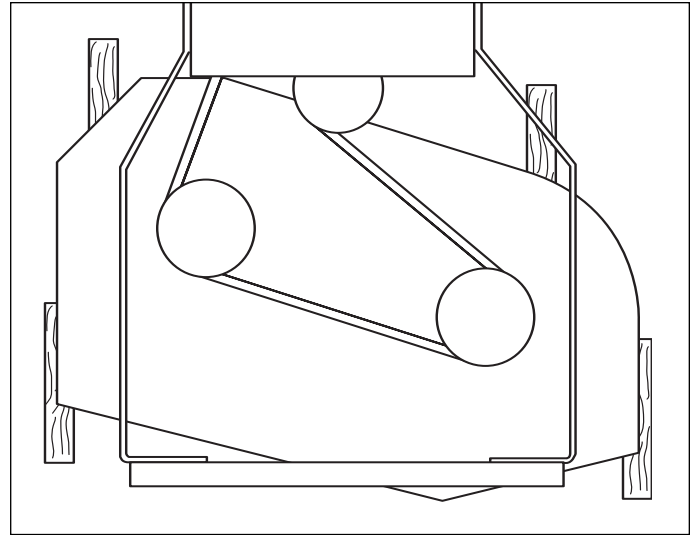

Figure 16. 2 x 4 Placement
- 3A. If the mower deck is in the HIGH RANGE, place 2 x 4 blocks under the outside edges of the mower deck with the 3-1/2" sides being vertical. Place a 1/8" (3mm) thick spacer on top of the rear 2 x 4 blocks. (See Figure 16)
- 3B. If the mower deck is in the LOW RANGE, place 2 x 4 blocks under the outside edges of the mower deck with the 1-1/2" sides being vertical. Place a 1/8" (3mm) thick spacer on top of the rear 2 x 4 blocks. (See Figure 16)